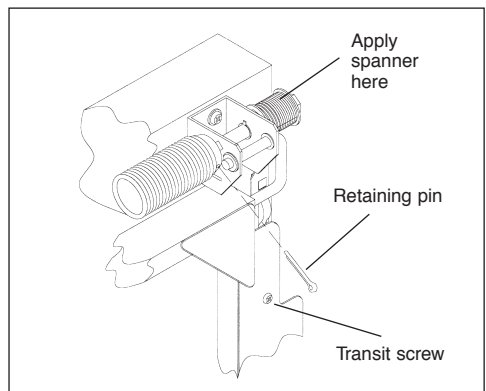

FIG 4
Remove the retaining pin from the Spring Anchor Bush with assistance of spanner on pulley (see fig. 4). You now have tension on the door. Take out 2 transit screws and spacer from each upper weather strip. Open/close door through full travel to test runner position. If necessary make final adjustment to runners for correct operation. With door open insert 5 screws per side (No.8 x 1") down each side runner.
2. Wearing safety glasses, close door and grip R/H blue pulley with 22mm A/F spanner and by turning upwards, align holes in spring anchor bush and spring shaft. Insert retaining pin (4mm dia. x 50mm split pin or similar) fully into this hole as shown, then remove the spanner. (See Fig. 4)